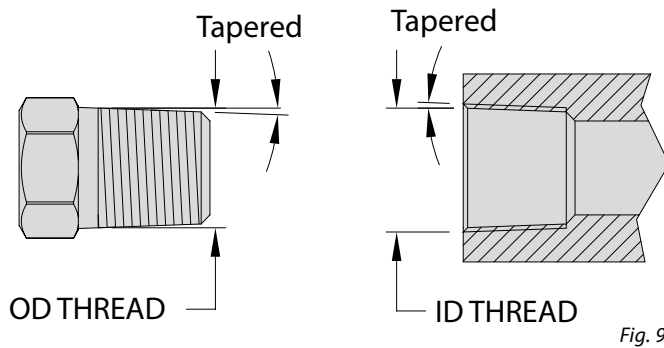

Fig. 9
**British Standard Pipe Tapered (BSPT or R)** is a common thread in Europe. This is a tapered thread like NPT but the pitch is different. The threaded diameter is close but not identical and not interchangeable. The seal is formed by deforming the threads much like NPTF (Fig. 9).